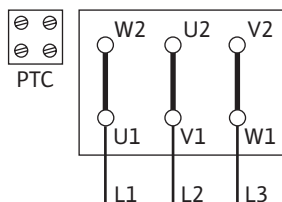
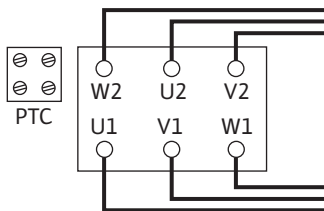

Fig. 5: Y-Δ start
Fig. 6: Δ connection
- The mains connection is dependent on the motor power P2, mains voltage and activation type. Refer to the following table and Fig. 5 and Fig. 6 for the required connection of the connecting bridges in the terminal box.
Y-Δ-start (standard)	Remove connecting bridges (Fig. 5).
Start via soft starter	Δ-connection (Fig. 6)